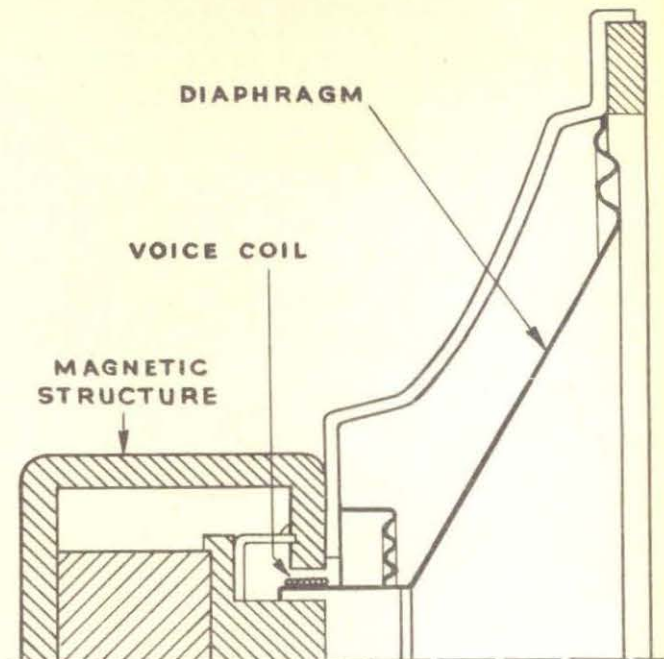

Figure 1. Simplified Direct-Radiator Loudspeaker.
For the first speaker, requiring 15 watts of audio, the voltage across the voice coil is 12.25 volts; ( $W = E^2/R$ ;  $W = 15$ ,  $R = 10$ ,  $E = \sqrt{150}$  or 12.25 volts). Similarly, the voltage across the speaker requiring 10 watts is 10 volts and the voltage across the speaker requiring 5 watts is 7 volts. The turns ratio of the various transformers is 122/12.25 or 10:1. Also 122/10 or 12.2:1, and also 122/7 or 17.5:1. The impedance ratio of the transformer is the turns ratio squared and the actual primary impedance is equal to the turns ratio squared, multiplied by the voice coil impedance of 10 ohms. The reflected primary impedances are all different. However, when the three are parallel, they result in an impedance of 500 ohms, which is the correct value for the 500 ohm line. In this case, the power delivered to each of the speakers is entirely different from the condition under Fig. 1.
**IMPEDANCE MATCHING OF SPEAKERS WITH UNEQUAL POWER RATINGS:** It is frequently necessary to match a number of speakers to a 500 ohm line in such a way that the speakers take unequal power. It is an easy matter to connect a number of speakers to a 500 ohm line so that each speaker takes the same amount of power, and it is also an easy matter to determine the correct impedance ratio of each line to speaker transformer. In Fig. 1, if each of the speakers has a voice coil impedance of 10 ohms, the impedance ratio of the transformers should be 1500:10 so that the three 1500 ohm impedances in parallel will give an impedance of 500 ohms, which
frequency electrical signal current causes the diaphragm to vibrate at the same frequency and with an amplitude depending on the value of this current. Figure 1 illustrates these functional parts. The diaphragms of direct-radiator loudspeakers are usually fabricated or moulded of special paper-like material.